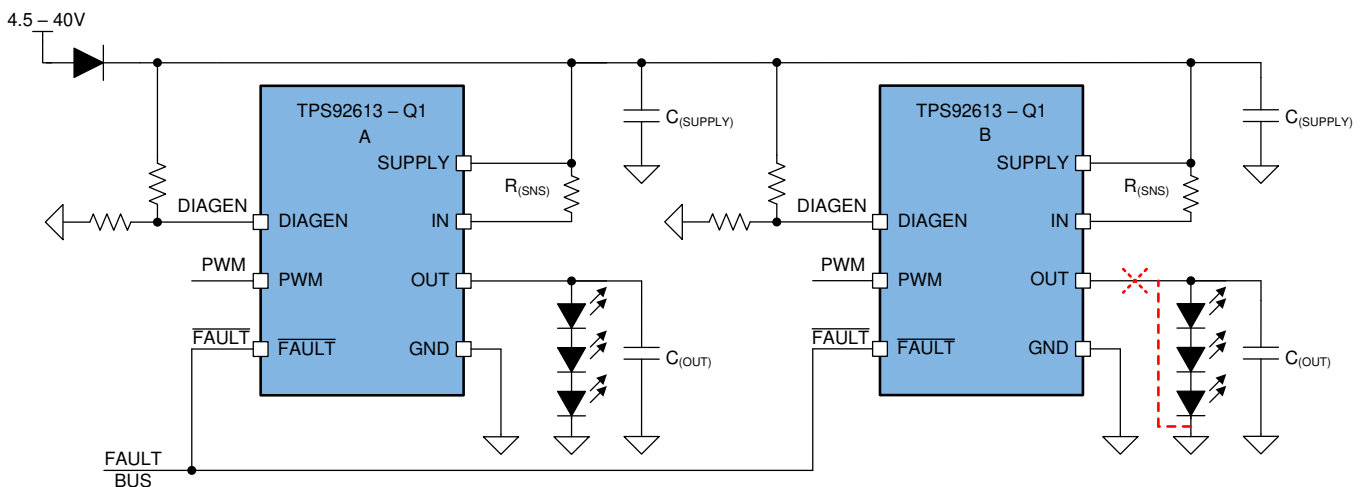

图 22. Typical Application Schematic for One-Fails-All-Fail
Based on this feature, the TPS92613-Q1 device is able to construct a FAULT bus by tying $\overline{\text{FAULT}}$ pins from multiple TPS9261x-Q1, TPS9263x-Q1 or TPS92830-Q1 devices to realize one-fails-all-fail function as 图 22 showing. The right side TPS92613-Q1 (B) detects either LED open-circuit fault or LED short-to-GND fault and pulls low the FAULT pin. The low voltage on FAULT pin is detected by left side TPS92613-Q1 (A) because the FAULT pins are connected of two devices. The left TPS92613-Q1 (A) turns off the output current as a result.